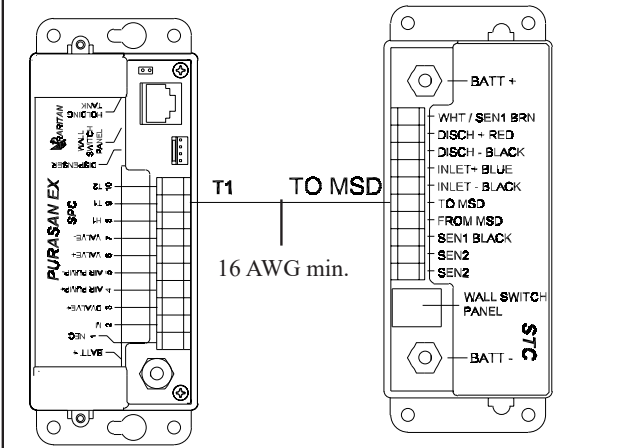

FIG 11 Electric toilet activates PURASAN®EX
3. See Figure 11 for standard electric toilets.